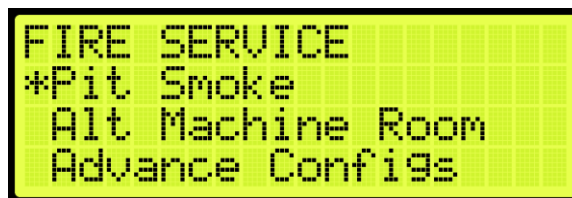

Figure 553: FIRE SERVICE Menu – PIT Smoke
2. From the FIRE SERVICE menu, scroll and select PIT Smoke (See Figure 553).